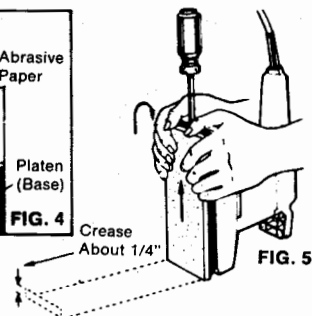

FIG. 5
5. Position Sander as in Figure 5 and again wedge the clamp open with screwdriver. Crease paper upward about 1/4" from its end. Tuck paper under clamp as far as it will go, pushing it in firmly with your thumbs (Figure 5). Now hold it in tightly with one hand and remove screwdriver with other hand. The abrasive paper is now clamped to platen and you are ready for sanding.